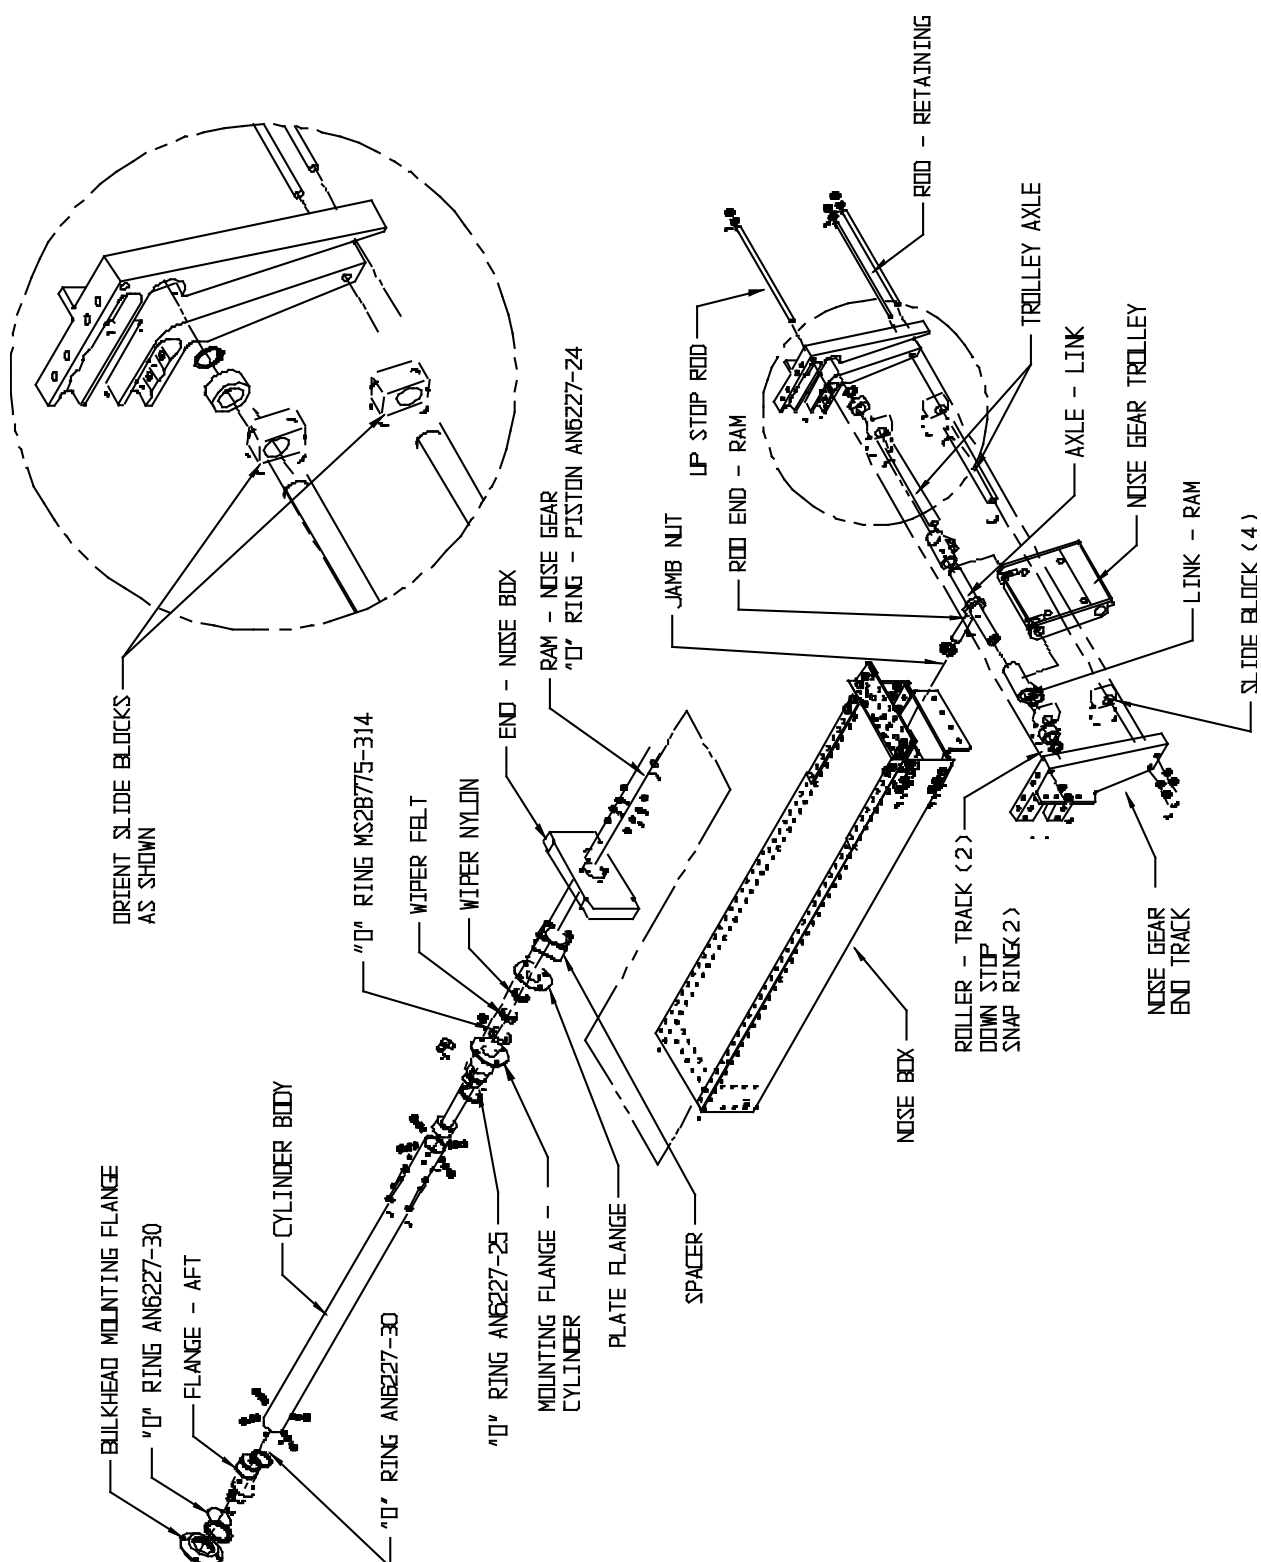

FIGURE 2.9 ASSEMBLY – NOSE GEAR BOX AND RETRACTION
The nose gear has an over-center down lock. Retraction occurs when pressure is applied to the forward face of the actuator piston and the carriage is drawn along the tracks in the nose box as shown in figure 2.9. Gear position light proximity switches are closed when the piston containing the magnetic material has reached either end of its travel.
The up stops nests in the up-stop bolt. See figure 2.9 and 2.10 for locations and assembly. Nose gear proximity switches are located on clips that are mounted on the outer cylinder body, one on each end. The most forward switch is for the gear down lights and most aft is for the gear up position lights. Set the proximity switch mounting clip along outer cylinder body to a position such that the light goes out when the over-center track is about $\frac{1}{4}$ inch from bottomed position while traveling in the up direction. Lights should come on about $\frac{1}{8}$ inch from the bottomed position while traveling in the down direction. The cylinder piston has a magnet that will activate the proximity switches.
Gear must be in down position. Unbolt the spring from the trolley. Relieve the pressure in system, place gear selector handle in neutral position (lever between up and down), and remove rear hydraulic line. Remove (4) bolts on forward end of cylinder. Drain fluid. Pull aft to expose internal piston rod. Loosen jamb nut on forward side of cylinder ram at rod end. Turn piston from aft side of nose box out of rod end. Push on trolley assembly to unlock and remove the bottom thru-bolts. Slide out of nose box. Note: On installation, adjust piston so it bottoms out on aft flange at the same time as the bearings when nose gear is in locked position. Also note orientation of trolley blocks. The side with the most edge distance from hole is to go toward each other on inside of trolley. (See figure 2.9 for details).